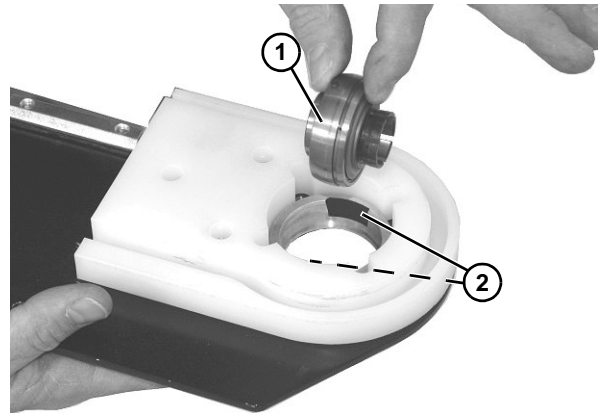

Figure 69
1. Turn bearing (**Figure 69, item 1**) to align with slots (**Figure 69, item 2**) in bearing housing. Then remove bearing.